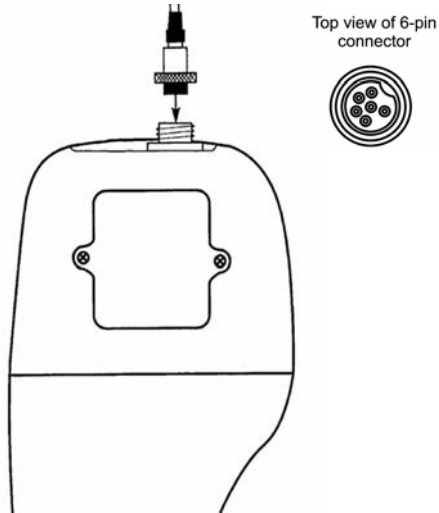

Figure 5: Probe Connector
1. Line up the notch and 6 pins of the meter's connector with the holes in the probe's connector. Push down and screw the metal sleeve to lock the probe connector into place. See Figure 5.